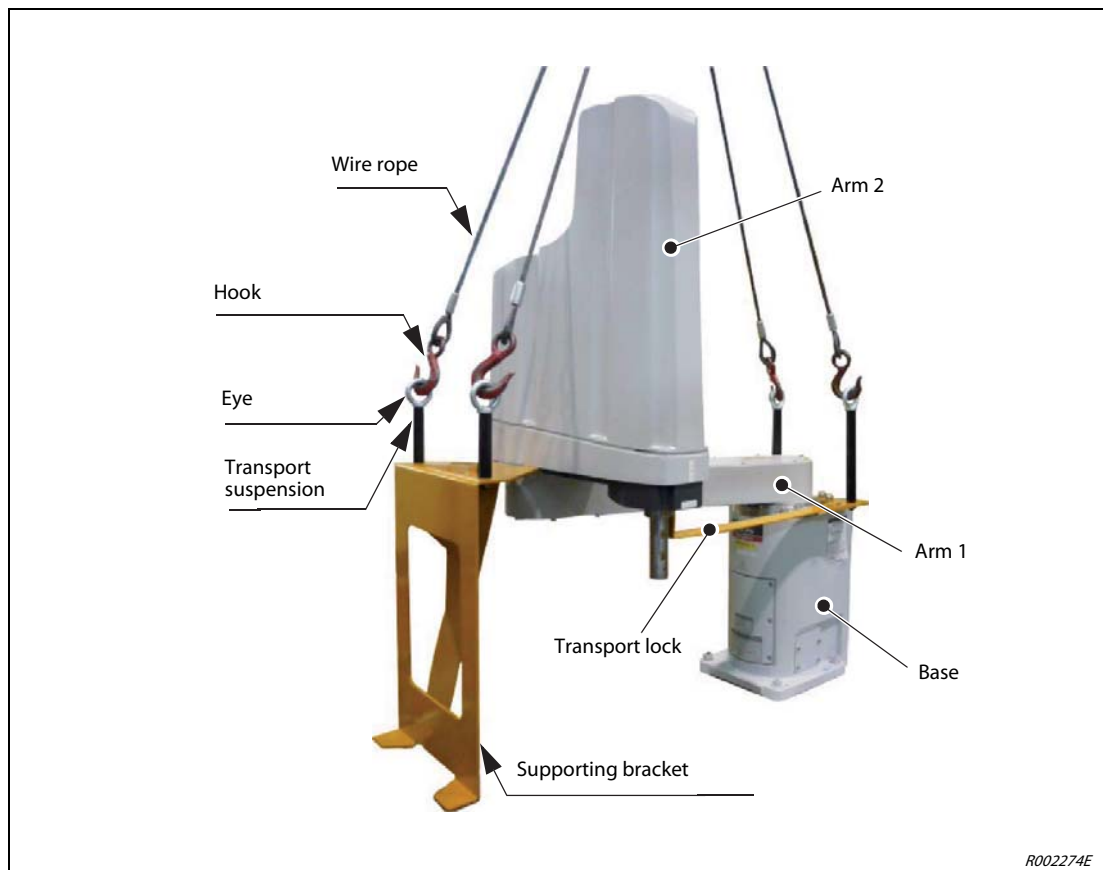

Fig. 3-13: Fix the transport suspensions
- ② Never carry the robot at its side or at the axes without holding points because this could result in damages.
- ③ Use a dolly if transporting longer distances. Only carry at the holding points for short periods of time.
- ④ Do not strain any covers.
- ⑤ Avoid knocks (impact loads) when transporting the robot arm.
- ⑥ Only remove the transport locks after installing the robot arm.
- **To avoid faults, the wire rope of the crane must be attached as shown in Fig. 3-13.**